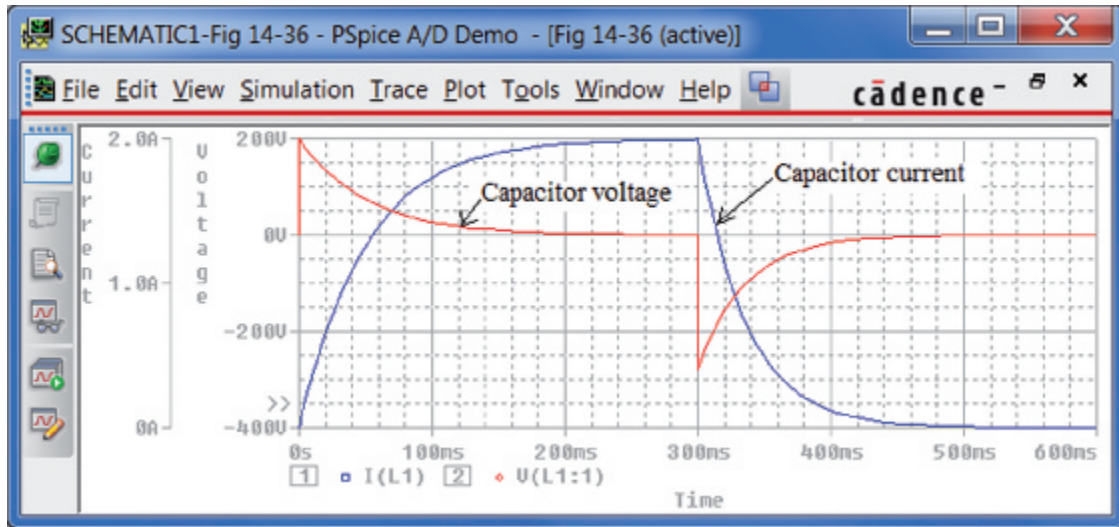

FIGURE A-5 Displaying and labelling multiple traces.
is created using a marker probe. This automatically creates the first Y-axis and scales it. To add a second axis and trace as in Figure A-5, do the following:
- Click Trace, Add Trace, then double-click the variable whose trace you want to add—see Figure A-5.